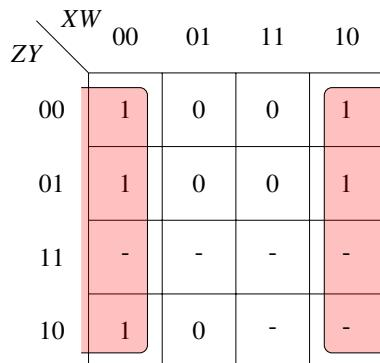

Fig. 4.5: K-map for A with don't cares
2. The revised K-map for A is available in Fig 4.5. Show that